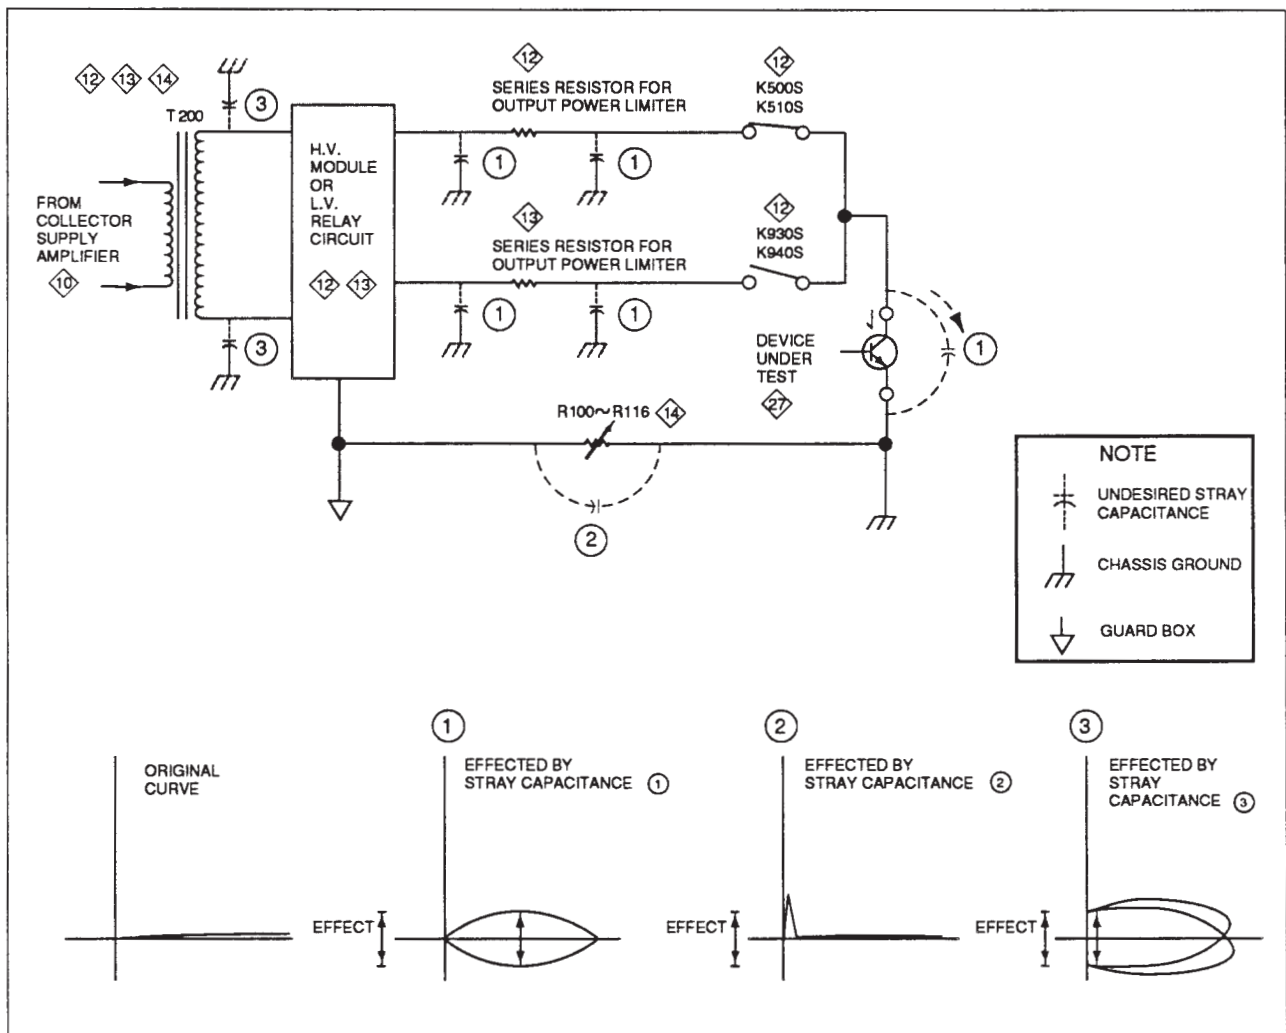

Figure 2-15. Effect of undesired stray capacitance on curve.
**The Looping Compensator Circuit** consists of operational amplifiers U220, U230 and U240, diode CR220, resistors R140-R148. This circuit cancels the looping effect. The looping current is measured by placing resistors R140, R142, R144, R146 and R148 between input relay module U300 (located on diagram 15a) and the current return point for the collector supply, then measuring the developed voltage across these resistors. Operational amplifiers U220 and U230 sense and amplify the looping signal. The front-panel LOOPING COMPENSATION adjustment controls the amplitude of this signal. This signal is then isolated by U240 and subtracted electrically from the vertical signal. As a result, the looping effect is canceled. (See Figure 2-15).